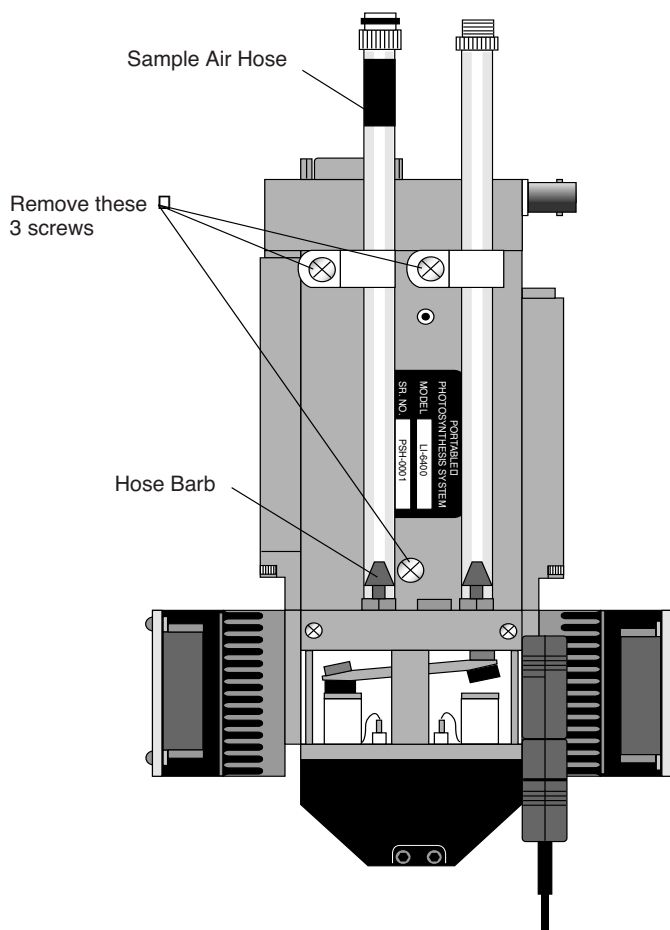

Figure 28-7. Preparing to remove the bottom plate.
a) Turn the sensor head over and remove the 3 Phillips head screws as shown in Figure 28-7.